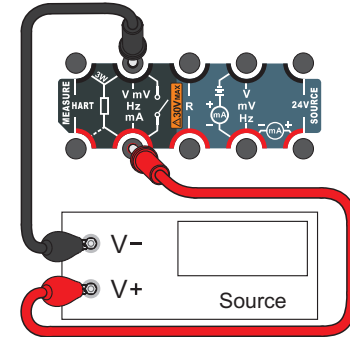

Figure 8 2 Millivolts or Volts Measurement
In the Basic Mode (as Figure 8 1) ,if the measurement area is active ,you can press the function keys (**V/Hz** , **Ω** , **TC/RTD** , **mA** , **μ**) which will display the corresponding items.Anytime that you want to access the non-active area, press the desired function key twice and the non-active area will become active (e g if the source area is active and you would like to change the measure function from mA to V then press **V/Hz** twice and the measure area becomes active and the **V/Hz** list appears for you to chose fom). To change any of measurement parameters ,the measurement area must be in an active state .Areas can also become active by selecting the Up/Down keys .
- 1 .Figure 8 2 shows the millivolts measurement connections .
- 1 .Figure 8 2 shows the volts measurement connections .
1. Figure 8 3 shows the frequency measurement connections .
1. Figure 8 4 shows the pulse counting connections .